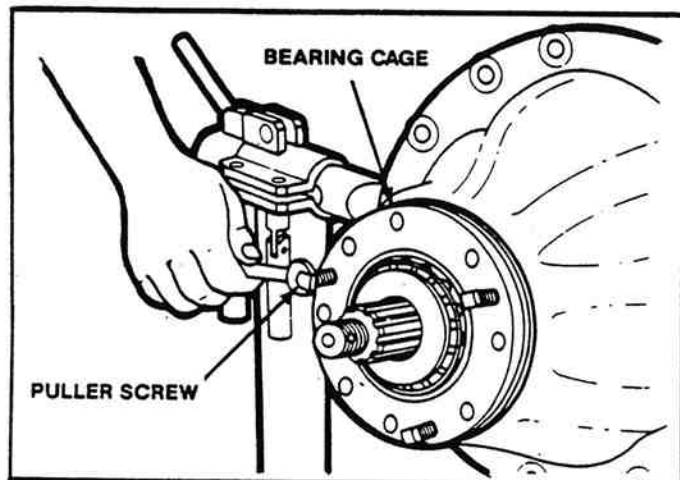

Figure 2-25. Removing Bearing Cage Using Puller Screws.
- b. Some bearing cages have threaded puller screw holes in the mounting flange. Puller screws can be used to loosen and pull a tightly fitted cage from the carrier. If puller screws are used, clean the threaded holes before the puller screws are installed (Figure 2-25).